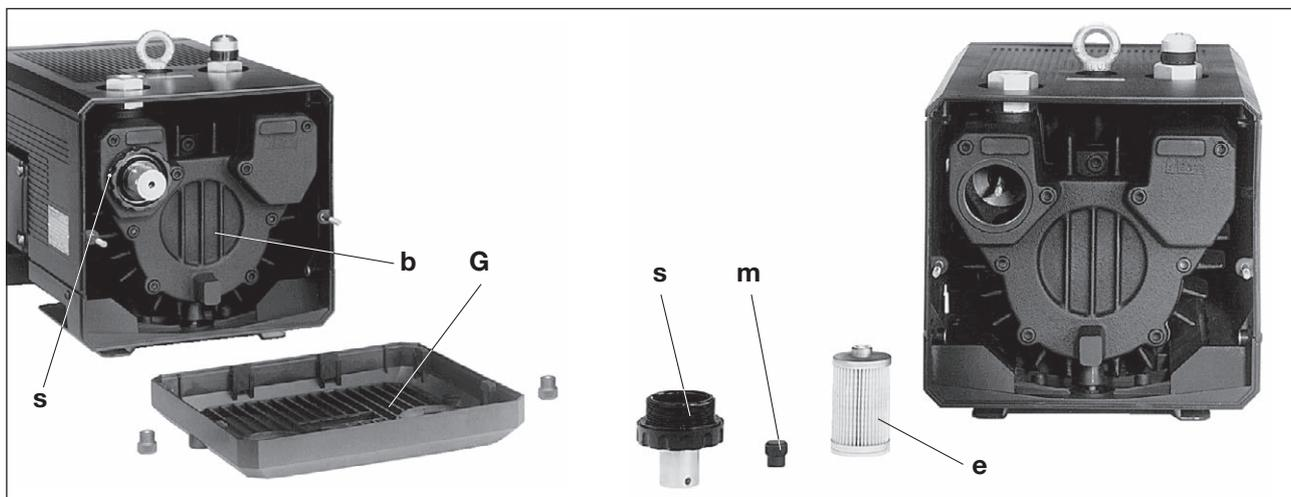
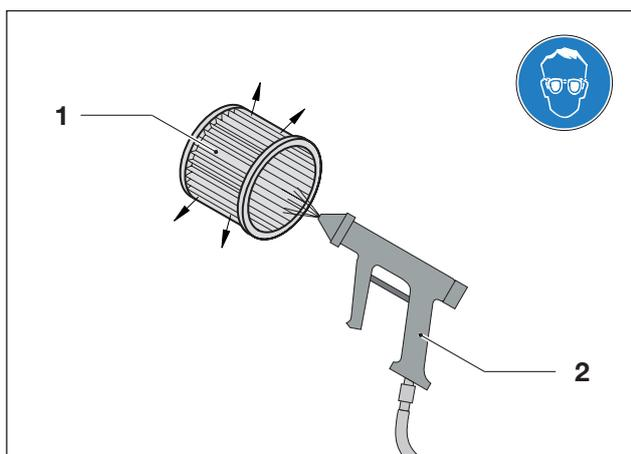
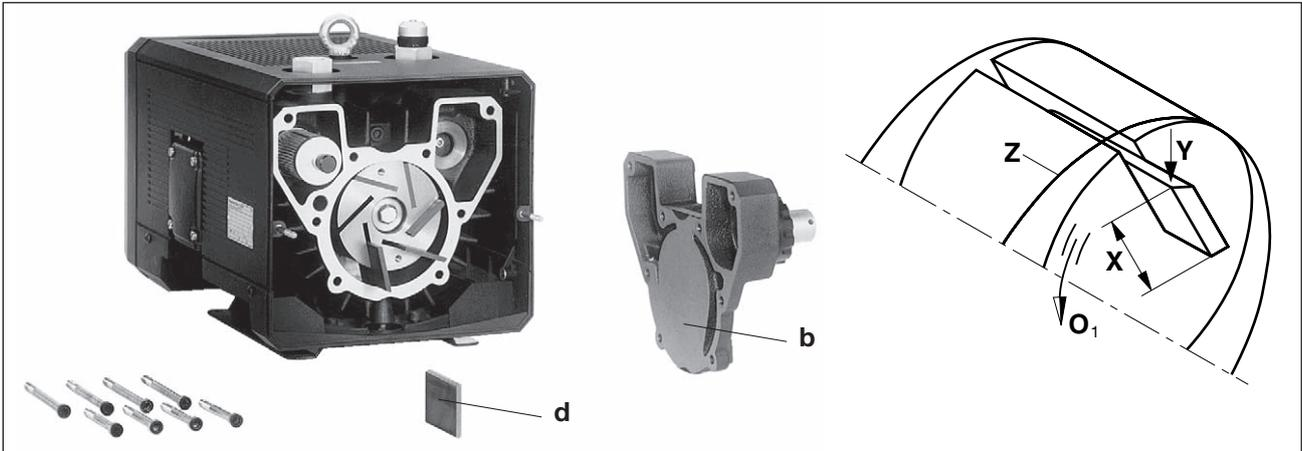

Fig. 5 Air filtering
Fig. 6 Purging filter cartridge
Fig. 7 Changing blades
The filter cartridge (Fig. 5/e) for suction air must be cleaned by blowing through from the inside out once a month or more often depending on the level of contamination. In spite of cleaning the filters their separation efficiency will continue to deteriorate. Therefore the filters should be replaced every six months.
V-V-VTN (01) - (11): Unscrew the outlet grid (Fig. 5/G).
Undo the screw cap (Fig. 5/s) and the knurled knob (Fig. 5/m). Remove and clean or replace filter cartridges (Fig. 5/e). Reassemble in reverse order.
V-VTN(01) - (11): Unscrew the outlet grid (Fig. 5/G). Unscrew the housing cover (Fig. 7/b) from the housing. Remove the blades (Fig. 7/d) to be checked. All blades must have a minimum height (Fig. 7/X):
Changing blades: If you detect during the blade check that the minimum height has been reached or it has fallen below the minimum height, the blade set must be changed. Blow out the housing and the rotor slot. Insert the blades into the rotor slot. When doing this you must ensure that the blades with the sloping side (Fig. 7/Y) point outwards and the direction of rotation of these sloping sides (Fig. 7/O₁) matches that of the drilled holes for the housing (Fig. 7/Z). Screw on the housing lid (Fig. 7/b) and outlet grid (Fig. 6/G). Before starting up check that the blades run freely by moving the fan round, for it unscrew the inlet grating (Fig. 2/G₁) or the cover (Fig. 3/G₂).